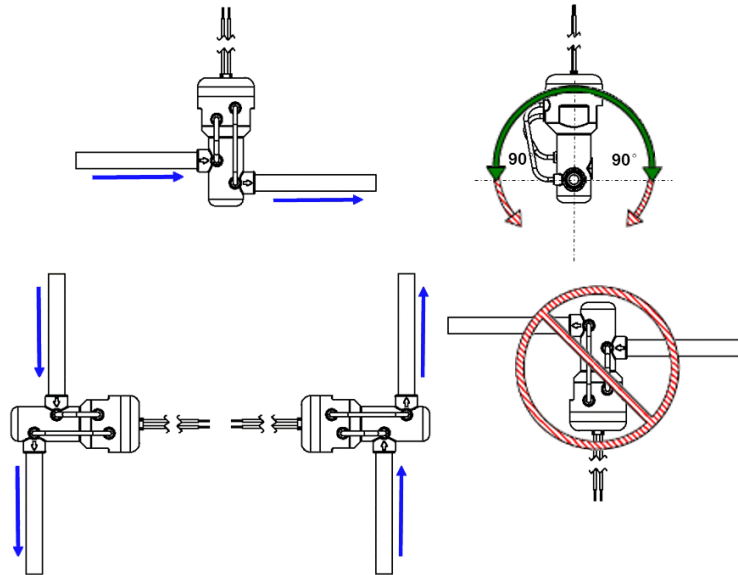

Figure 2-2: MSEV series valve installation orientation
4. Position the valve as displayed in **Figure 2-2** and ensure the arrow mark aligns with the direction of fluid flow. The blue arrows show which way fluid is supposed to flow through the valve. Also ensure that the MSEV series valve is installed in an upwards orientation or at any angle less than 90° in either direction (represented by the curved green arrows).